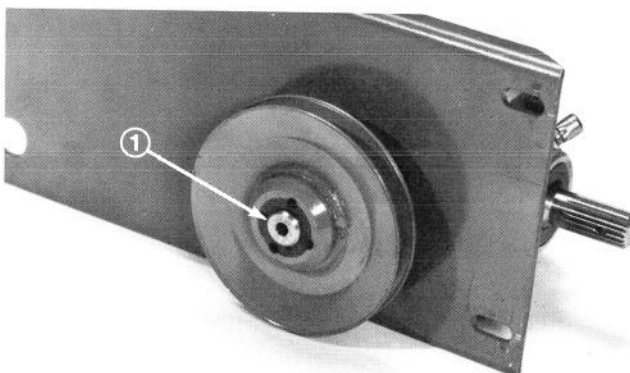

Figure 40
5. Remove set screws from taper lock bushing (Fig. 40). Install one set screw into threaded hole on side of taper lock (Fig. 40). Tighten set screw until taper lock is loose on inside of pulley hub.
2. Insert woodruff key into keyway in gear box shaft. Slide pulley w/taper lock onto gear box shaft and key (Fig. 40).
5. Check alignment of gear box pulley with spindle pulley. Loosen and relocate taper lock to adjust, if necessary (Fig. 40).